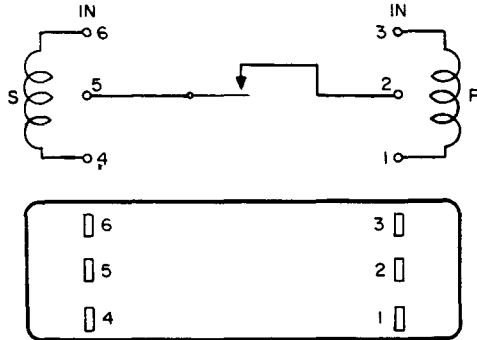

Fig. 80 - Winding and Spring Terminal Numbering — 327-Type Relay
2.85 As viewed from the rear, the winding and spring terminals are designated as shown in Fig. 80 through 82.